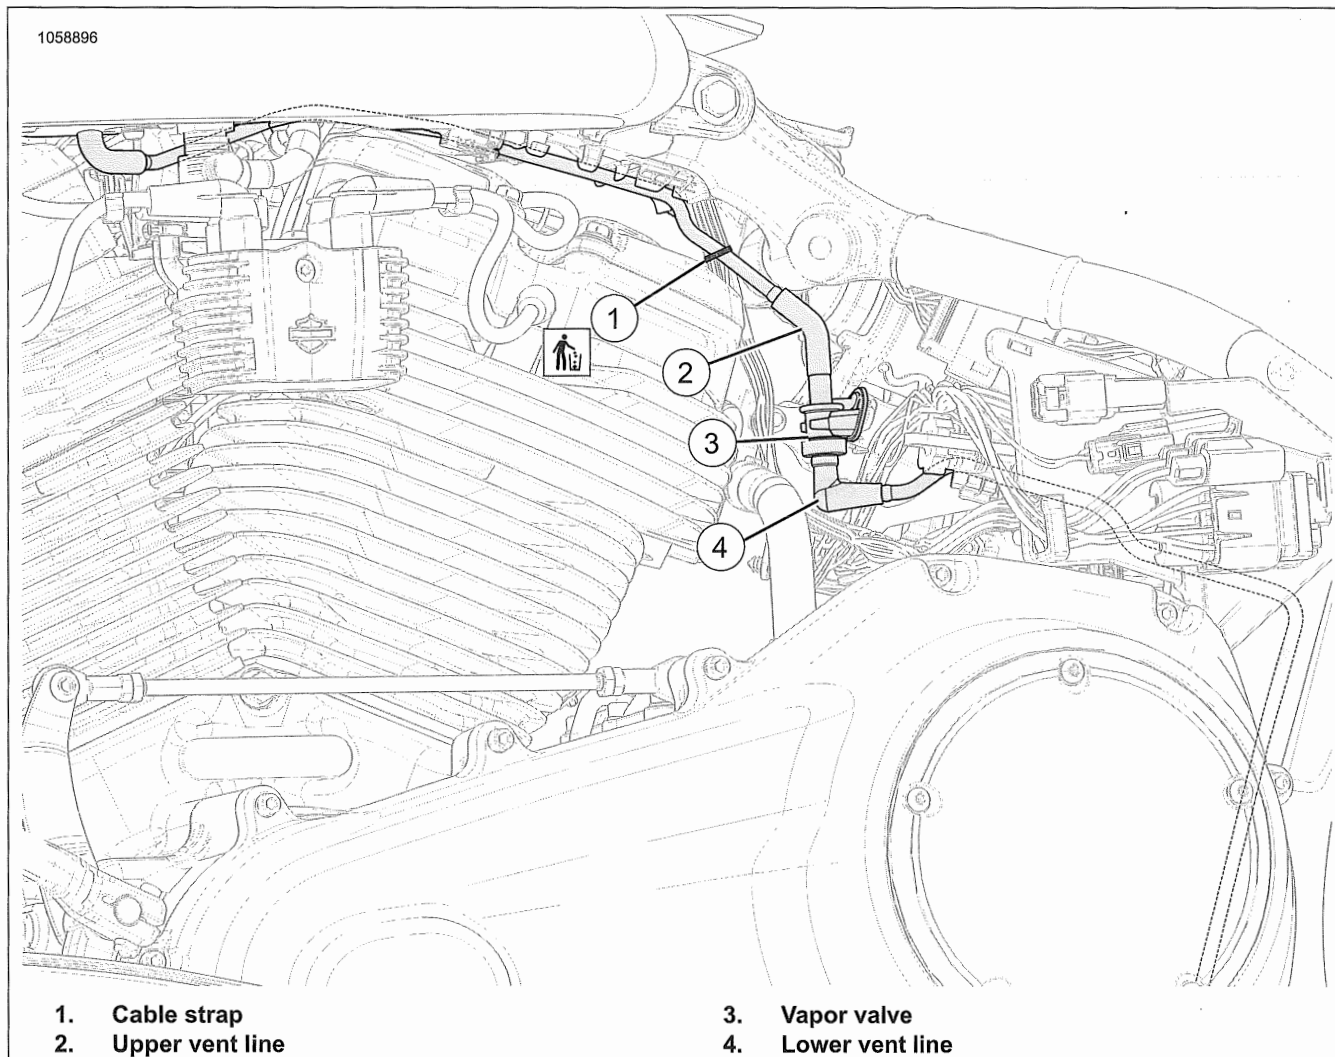

Figure 6-26. Fuel Tank Vent Line
1. See Figure 6-26. Remove upper vent line.
- a. Remove and discard cable strap (1).
- b. Disconnect upper vent line (2) from vapor valve (3).
- a. Disconnect lower vent line (4) from vapor valve.
1. See Figure 6-26. Install upper vent line.
- a. Connect upper vent line (2) to fuel tank.
- b. Connect upper vent line to vapor valve (3).
- c. Install **new** cable strap (1).
- a. Install lower vent line (4).